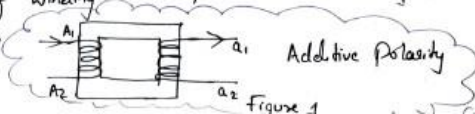

Figure 1
- In figure 1 below, the 1° and 2° are in phase as the direction of winding are in phase thus showing additive polarity.